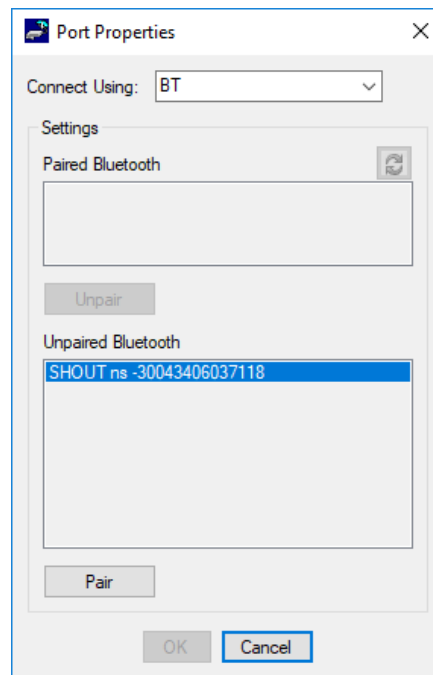

Figure 6: Bluetooth Port Properties Window Unpaired
Connecting to Bluetooth is also done through the *Port Properties* window. The Bluetooth port properties window (see **Figure 6**) has several buttons, which function as follows:
6. On the Bluetooth *Port Properties* window, a list of any nearby SHOUT ns devices with Bluetooth activated is displayed (see **Figure 6**). Select the desired SHOUT ns device and click **Pair** to pair the device to SatTerm. When paired, SatTerm displays *PAIRING COMPLETE* to indicate it has successfully paired the device. If the SHOUT ns device is not displayed, verify that Bluetooth is on and click the refresh button to search for the device again.